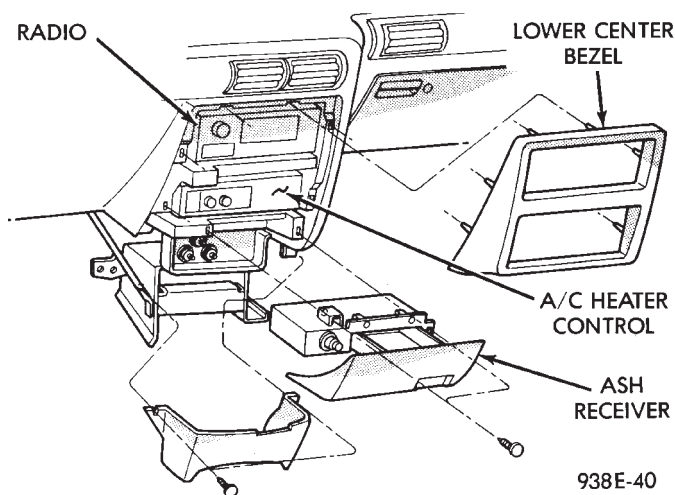

Fig. 3 Center Bezel Removal
(1) Remove center bezel by pulling straight back (Fig. 3).